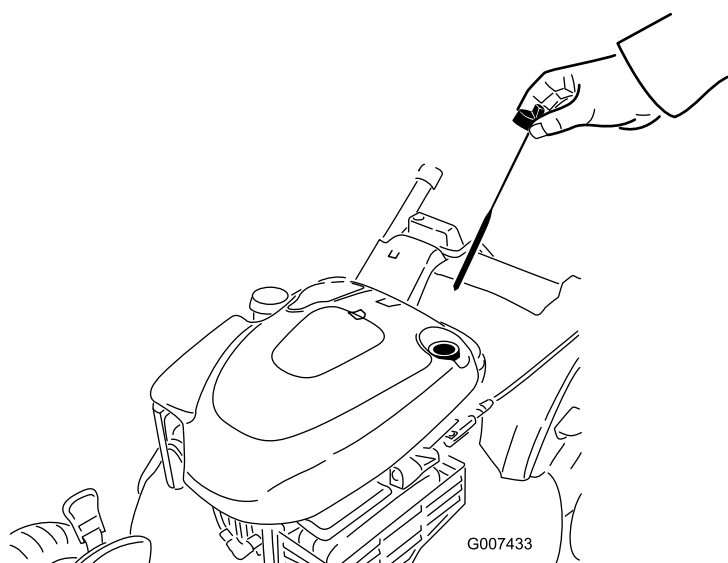

Figure 42
6. Remove the dipstick from the oil-fill tube (Figure 42).